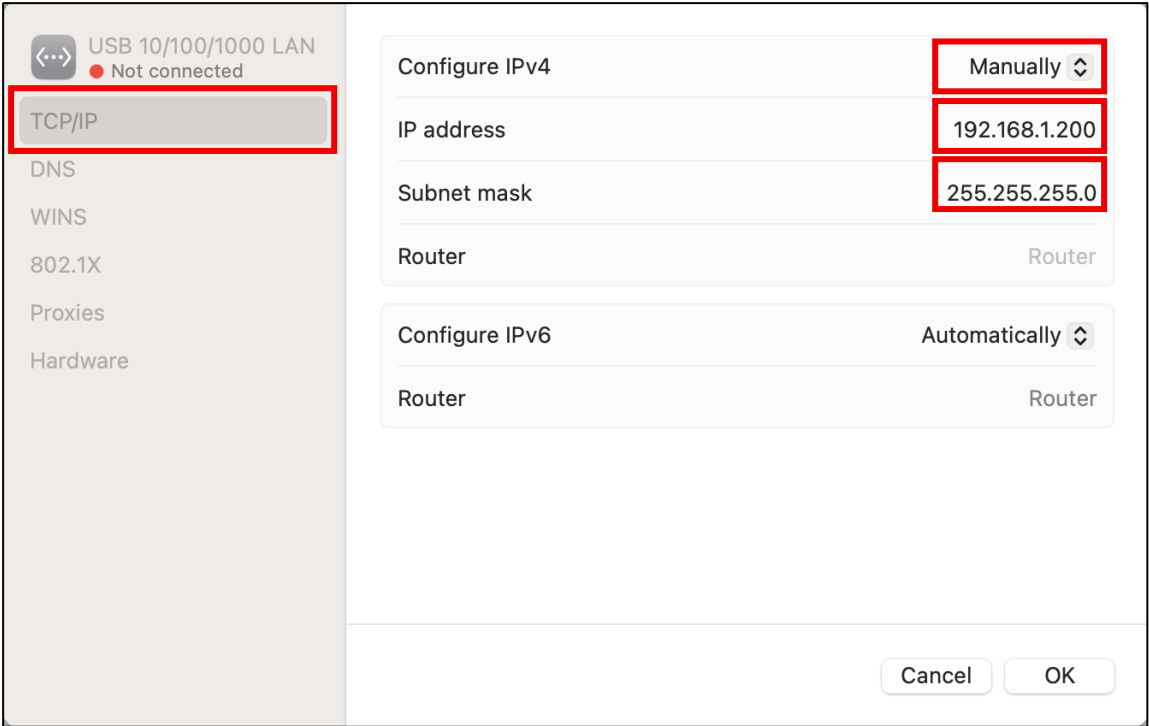

Figure 6: Network setting M2
- II) Click *TCP/IP* in the sidebar, edit Configure IPv4 to Manually, fill up IP address and Subnet mask as shown below and click on OK button. Note: last number of IP addresses should be different from IP addresses of device. Example: If device IP is **192.168.1.100** you need to use different, for example 192.168.1.200, see Figure 6: Network setting M2.